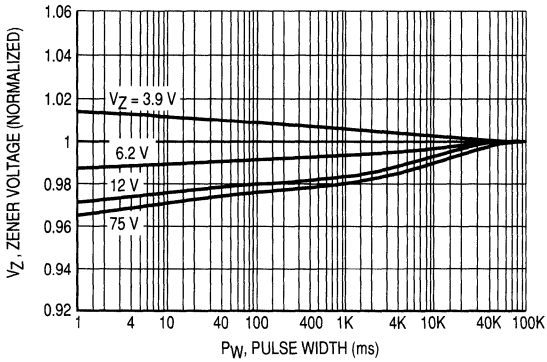
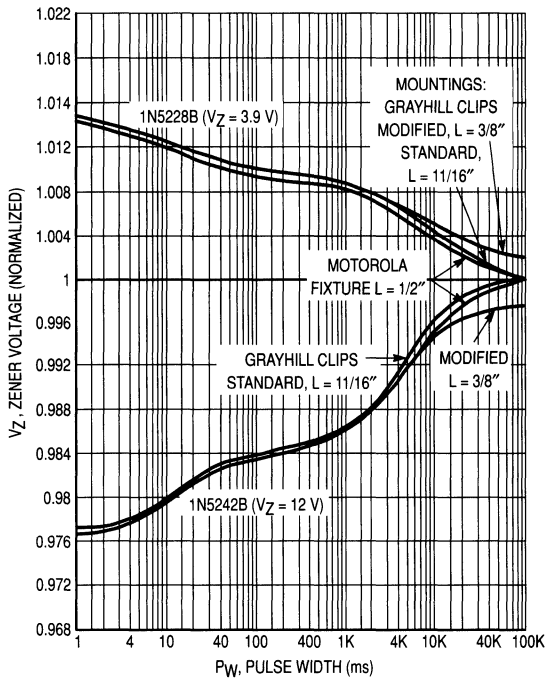
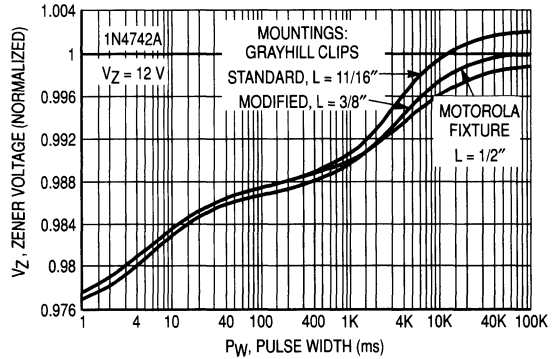

Figure 1. DO-35 (Glass) 500 mW Device
Figure 5. DO-35 (Glass) 500 mW Device
Figure 6. DO-41 (Glass) 1 Watt Device
Normalized  $V_Z$  versus  $I_{ZT}$  pulse width curves are shown in Figure 1 through 6. The type of heatsink used is shown or specified for each device package type. Obviously, it is beyond the scope of this paper to show curves for every voltage rating available for each package type. The object was to have a representative showing of voltages including when available, one diode with a negative temperature coefficient (TC).
For example, refer to Figure 5 which shows normalized  $V_Z$  curves for the axial lead DO-35 glass package. Three mounting methods are shown to show how the mounting effects device heating and thus  $V_Z$ . Curves are shown for a 3.9 V diode (1N5228B) which has a negative TC and a 12 V diode (1N5242B) having a positive TC.
In Figure 5, the two curves generated using the Grayhill mountings are normalized to  $V_Z$  at TE using the Motorola fixture. There is very little difference in  $V_Z$  at pulse widths up to about 10 seconds and mounting only causes a very small error in  $V_Z$ . The maximum error occurs at TE between mountings and can be excessive if  $V_Z$  is specified at TE and a customer measures  $V_Z$  at some narrow pulse width and does not use a correction factor.
Using the curves of Figure 5,  $V_Z$  can be calculated at any pulse width based upon the value of  $V_Z$  at TE which is represented by 1 on the normalized  $V_Z$  scale. If the
In using the curves of Figure 5 and 6, it should be kept in mind that  $V_Z$  can be different at TE for the three mountings because diode junction temperature can be different for each mounting at TE which is represented by 1 on the  $V_Z$  normalized scale. Therefore, when the correlation of  $V_Z$  between parties is attempted, they must use the same type of mounting or know what the delta  $V_Z$  is between the two mountings involved.
The Grayhill clips curves in Figure 6 are normalized to the Motorola fixture at TE as in Figure 5. Figures 1 through 4 are normalized to  $V_Z$  at TE for each diode and would be used as Figures 5 and 6.
Measurement accuracy can be affected by test equipment, power dissipation of the D.U.T., ambient temperature and accuracy of the voltage divider if used on the input of the first op-amp (U4). The curves of Figures 1 through 6 are for an ambient temperature of  $25^\circ\text{C}$ , at other ambients,  $\theta V_Z$  has to be considered and is shown on the data sheet for the 1N5221B series of diodes.  $\theta V_Z$
FIGURES 1 thru 8 — Conditions: Single Pulse,  $T_A = 25^\circ\text{C}$ ,  $V_Z I_{ZT} = 1/4 P_D$  (Max) Each device normalized to  $V_Z$  at TE.